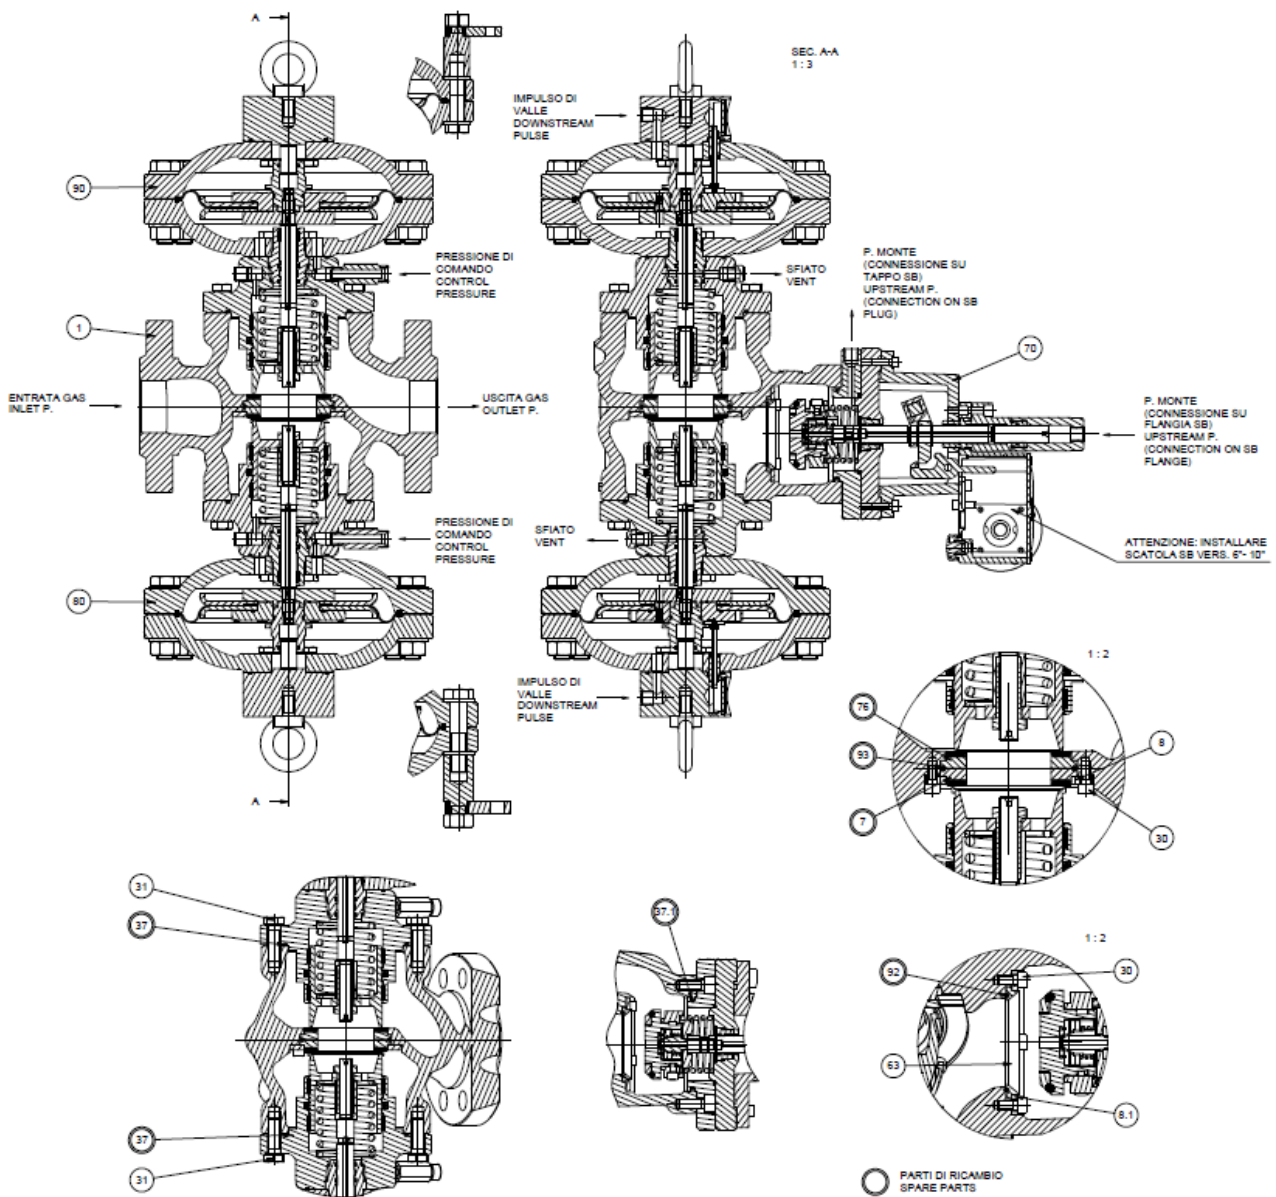
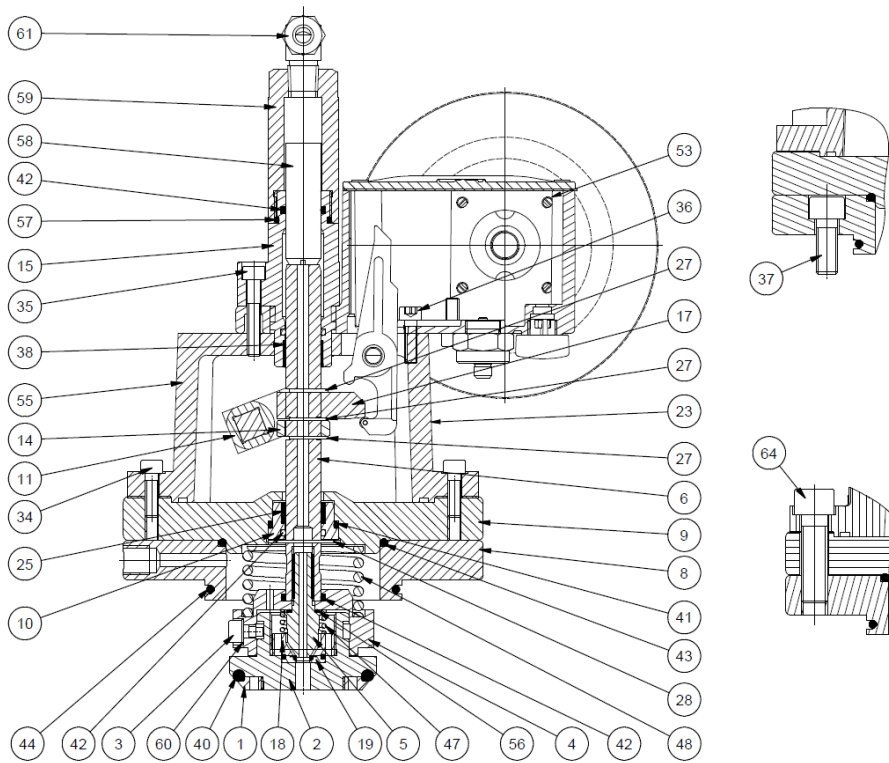

Fig.14
Fig. 16
### **DISASSEMBLING THE REGULATOR REGULATION UNIT (FIG 14)**
33) Slacken the lock nuts, pos. 9, of the obturator, pos. 5, of the rod, pos. 6, and remove the obturator guide, pos. 5, from the obturator guide, pos. 2.
34) Completely slacken the spring, pos. 54.
**(FIG 14)**
35) Slacken the fixing screws, pos. 30, of the lock ring, pos. 8, of the reinforced gaskets, pos. 7.
36) Remove the lock ring, pos. 8, and the reinforced gaskets, pos. 7 or 76.
38) Carefully control the condition of the obturator, pos. 5.
**REASSEMBLING THE REGULATOR REGULATION UNIT (FIG. 14)**
41) Reassemble the spring, pos. 54, fully in. Fix the obturator, pos. 5 to the rod pos. 6, and screw the lock nut, pos. 9.
42) Reassemble the regulation unit on the main body, and fix the screws, pos. 31.
**SB/82 SLAM-SHUT DISASSEMBLY (FIG 16)**
- 56) Fit the cover, pos. 40, and fix the screws, pos. 42 on the pressure switch device.
**(FIG 16)**
- 57) Put back the shaft guide, pos. 10, and fix it with the retaining ring, pos. 28.
- 58) Put back the spring, pos. 48, and the ring, pos.4, and fix the screw, pos. 5.
- 59) Put back the rings, pos.1 and pos.18 on the obturator, pos. 2.
- 60) Put back the spring, pos. 47, and the obturator, pos. 2, fixing the screws, pos. 3.
- 61) Put back the intermediate flange, pos. 8, in the bod and fix it with the screws, pos. 37.
- 62) Put the slam-shut device back on the body and fix the screws, pos. 64.